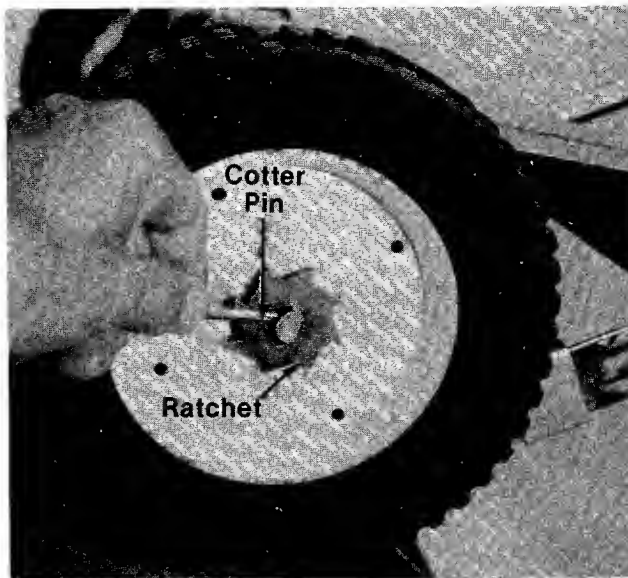

FIGURE 21.
9. Remove the cotter pin on the **RIGHT WHEEL ONLY** and remove the ratchet. See figure 21.
Mark the outside of the ratchet so it is not assembled backwards or refer to figure 21 for reassembly.